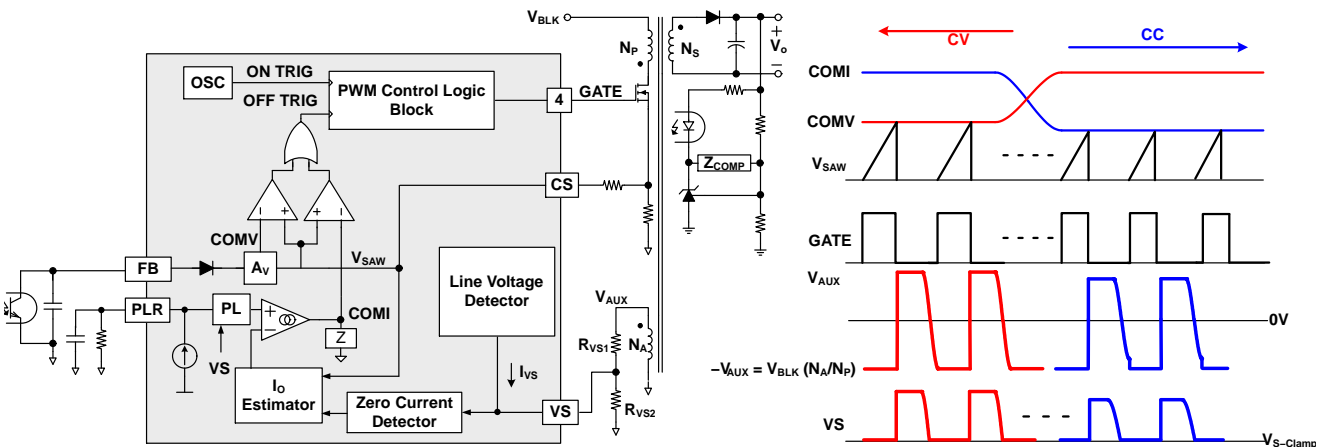
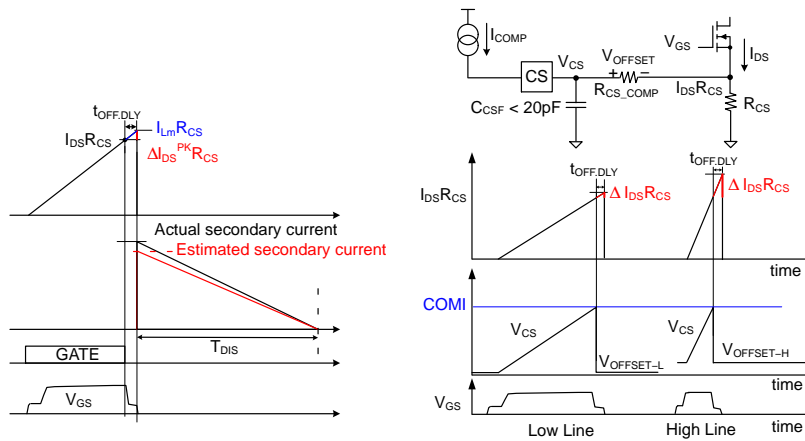

Figure 27. Simplified PWM Control Circuit and PWM Operation for CV/CC Regulation
Figure 29. Effect of MOSFET Turn-off Delay and Line Voltage Compensation
Figure 27 shows a simplified CV / CC PWM control circuit of the FAN604P. The Constant Voltage (CV) regulation is implemented in the same manner as the conventional isolated power supply, where the output voltage is sensed using a voltage divider and compared with the internal reference of the shunt regulator to generate a compensation signal. The compensation signal is transferred to the primary side through an opto-coupler and scaled down by attenuator AV to generate a COMV signal. This COMV signal is applied to the PWM comparator to determine the duty cycle.
These two control signals, COMV and COMI, are compared with an internal sawtooth waveform (VSAW) by two PWM comparators to determine the duty cycle. Figure 27 illustrates the outputs of two comparators, combined with an OR gate, to determine the MOSFET turn-off instant. Either of COMV or COMI, the lower signal determines the duty cycle. During CV regulation, COMV determines the duty cycle while COMI is saturated to HIGH level. During CC regulation, COMI determines the duty cycle while COMV is saturated to HIGH level.
The output current estimation is also affected by the turn-off delay of the MOSFET as illustrated in Figure 29. The actual MOSFET's turn-off time is delayed due to the MOSFET gate charge and gate driver's capability, resulting in peak current detection error as
Where Lm is the transformer's primary side magnetizing inductance. Since the output current error is proportional to the line voltage, the FAN604P incorporates line voltage compensation to improve output current estimation accuracy. Line information is obtained through the line voltage detector as shown in Figure 27. ICOMP is an internal current source, which is proportional to line voltage. The line compensation gain is programmed by using CS pin series resistor, RCS\_COMP, depending on the MOSFET turn-off delay, tOFF,DLY. ICOMP creates a voltage drop, VOFFSET, across RCS\_COMP. This line compensation offset is proportional to the DC link capacitor voltage, VBLK, and turn-off delay, tOFF,DLY. Figure 29 demonstrates the effect of the line compensation.